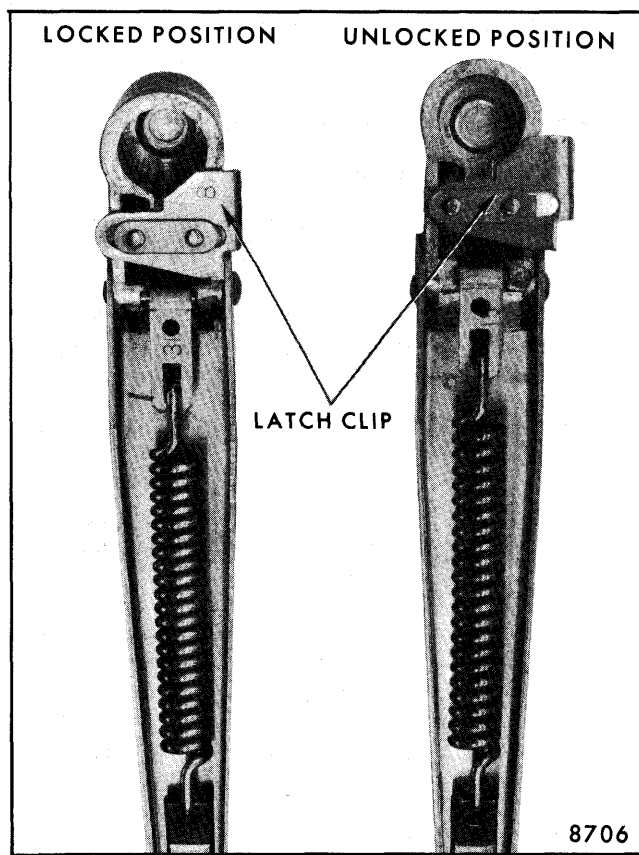

Fig. 2-51-Wiper Arm Latch Clips
2. Raise wiper arm and slide latch clip (Fig. 2-51) out from under wiper arm, then lift arm assembly off transmission shaft.